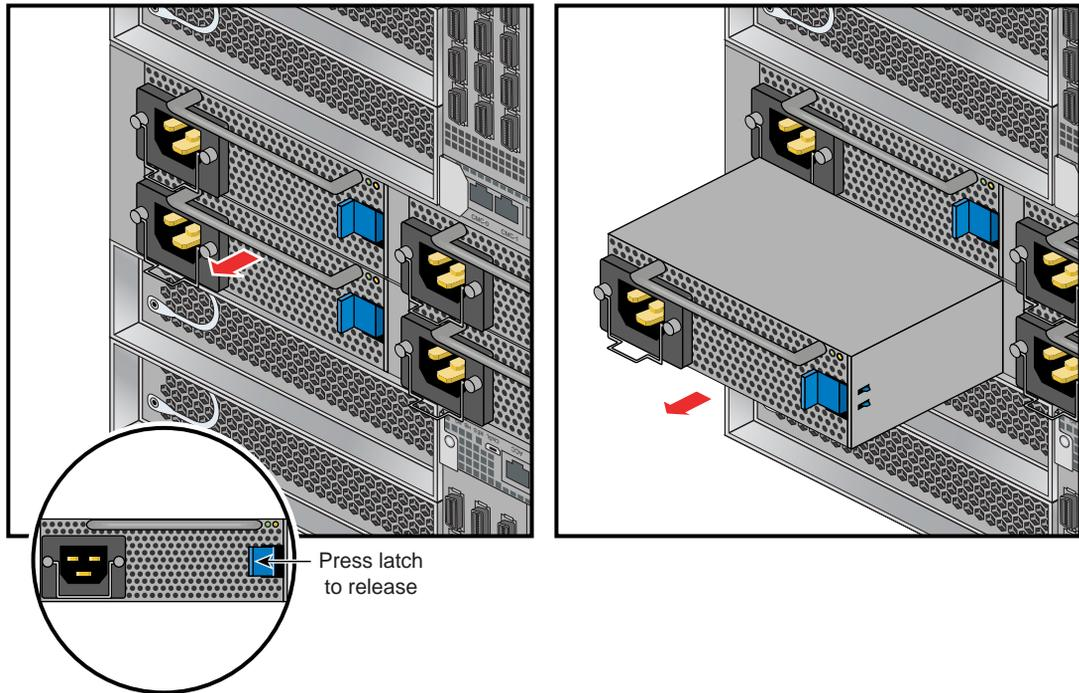

Figure 7-1 Removing an Enclosure Power Supply
3. Press the retention latch of the power supply toward the power connector to release the supply from the enclosure, see Figure 7-1 on page 84.